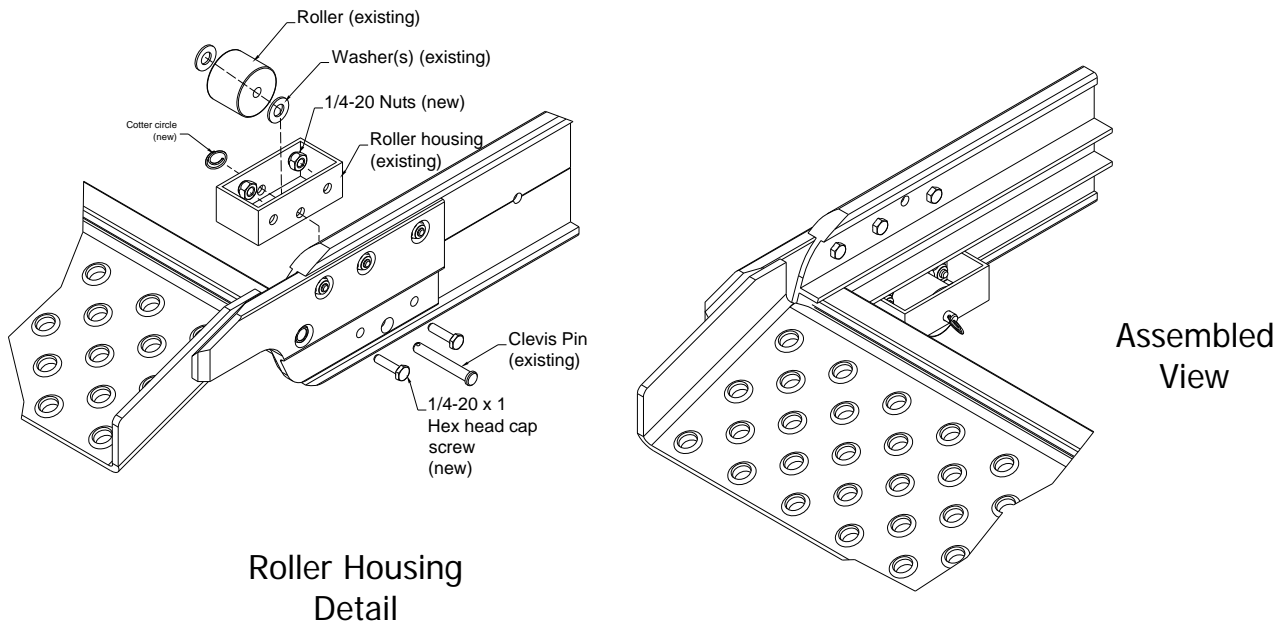

FIG. 4
- d. Place the 1/4-20 x 1" Hex Head Cap Screws through the holes in the apron that correspond to the holes in the roller housing and tighten the 1/4-20 Nylon Insert Stop Nuts on the inside of the roller assembly bracket. Reinstall the roller by referencing Fig. 4 for proper configuration.